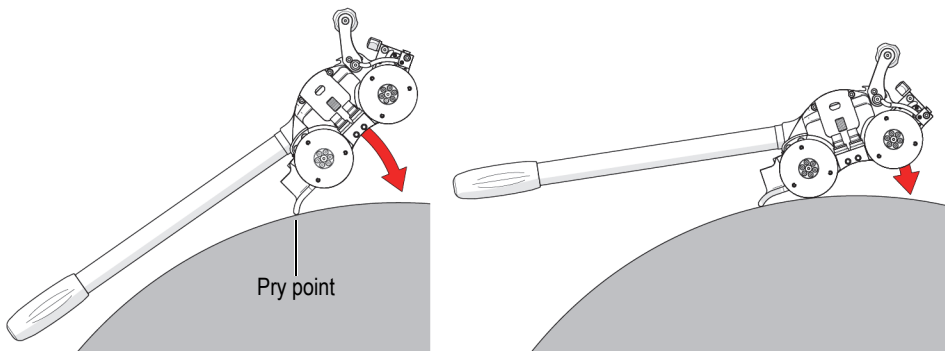

Figure 4-18 Lowering the HT crawler on the surface
6. While firmly grasping the crawler handle with one hand and the manipulation handle with the other, carefully lower the pry point of the crawler towards the inspection surface with the wheels of the crawler held as high off the surface as possible (see .Figure 4-18 on page 153).
7. With a firm grip on the manipulation handle, slowly lower the wheels of the crawler towards the inspection surface (see Figure 4-18 on page 153) until all four wheels contact the surface.